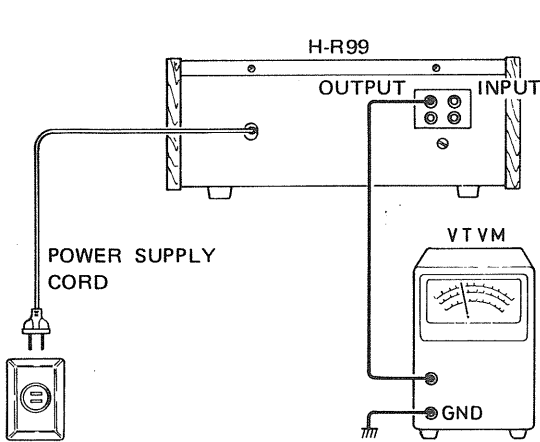

Fig. 4
1. Hook up according to Fig. 4.